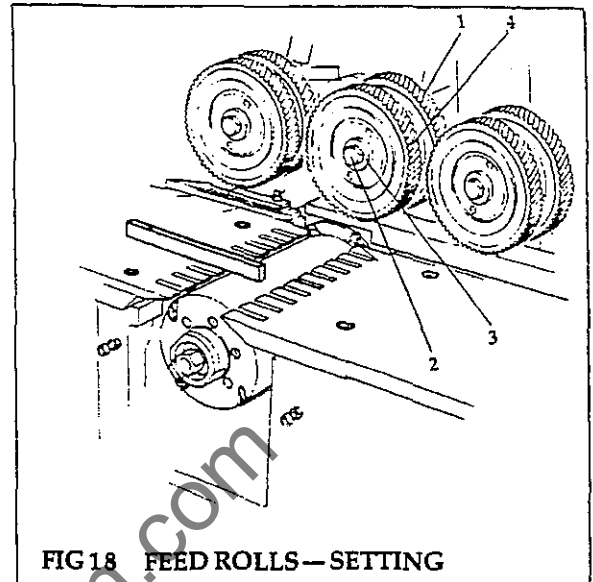
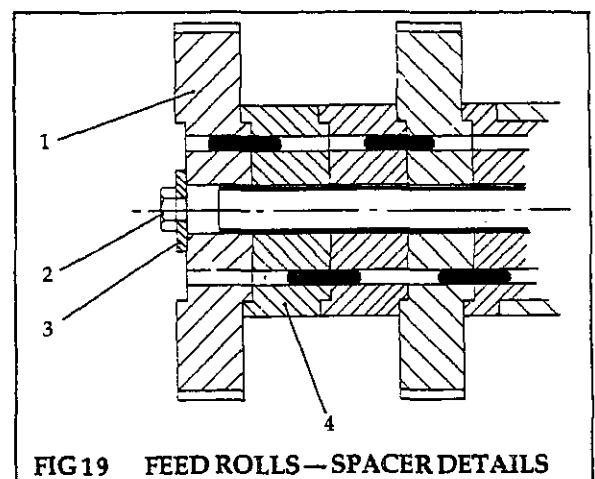

FIG 18 FEED ROLLS—SETTING
FIG 19 FEED ROLLS—SPACER DETAILS
## Set Feed Rolls (fig 18, fig 19)
**NOTE:** To achieve maximum traction on wide timber, it is advisable to space rolls apart (fig 19), rather than having a solid bank of feed rolls. Stagger the feed rolls at different stations using the spacing collars so that each roller runs on a different area of the top surface of the timber. Use the Control Station Rise and Fall pushbuttons to set the height of the rolls.